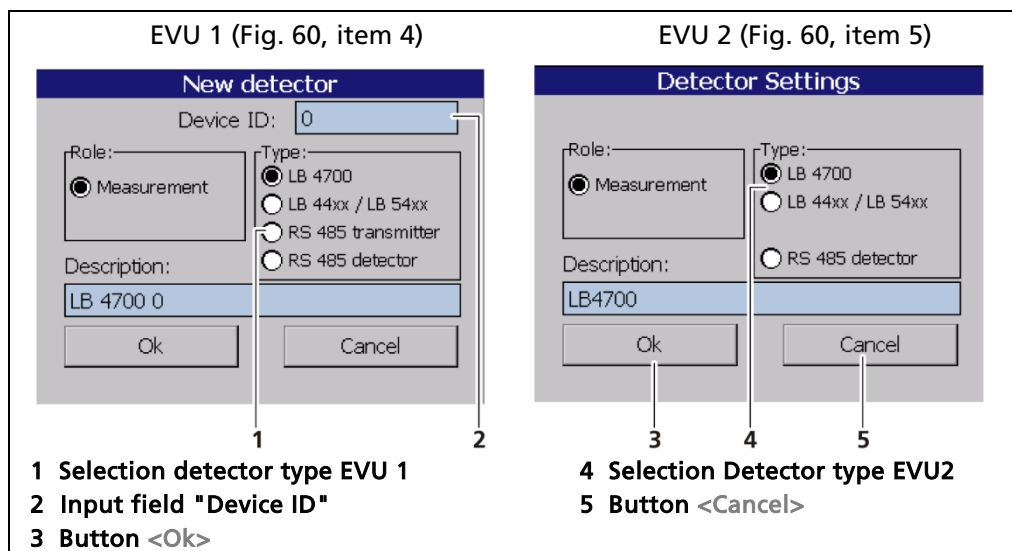

Fig. 61 Detector settings EVU 1 and EVU 2
8. Click on the input box Device ID (Fig. 61, item 2) and enter the device ID of the EVU 2.